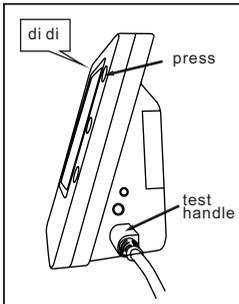

Fig.18
- 2) Connect the test handle and switch on the instrument, two tones audio signal are emitted when the unit is turned on. (Fig.18)